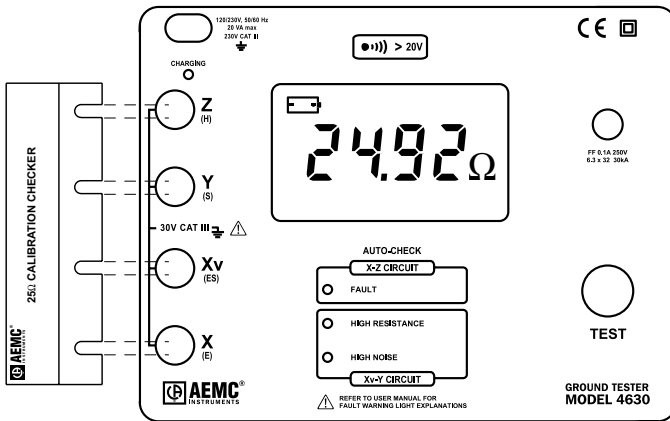

Figure 9
- Insert the calibration checker as shown in Figure 9.
If a check performed on the Model 4630 or 4620 displays a reading between (24.1 and 25.9) Ω (as in Figure 9), the instrument is in good working condition. The readings are for an ambient temperature between (68 and 79) °F (25 ± 3)°C.